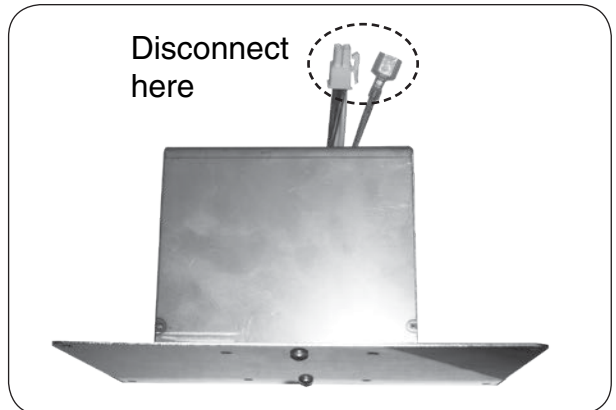

Fig. 39-2 Disconnect wire harness and groundwire (and power cord)
3. Disconnect the power supply cord. Then disconnect the wire harness and ground wire (see Fig. 39-2). Completely remove the box from the enclosure for ease of fuse replacement.